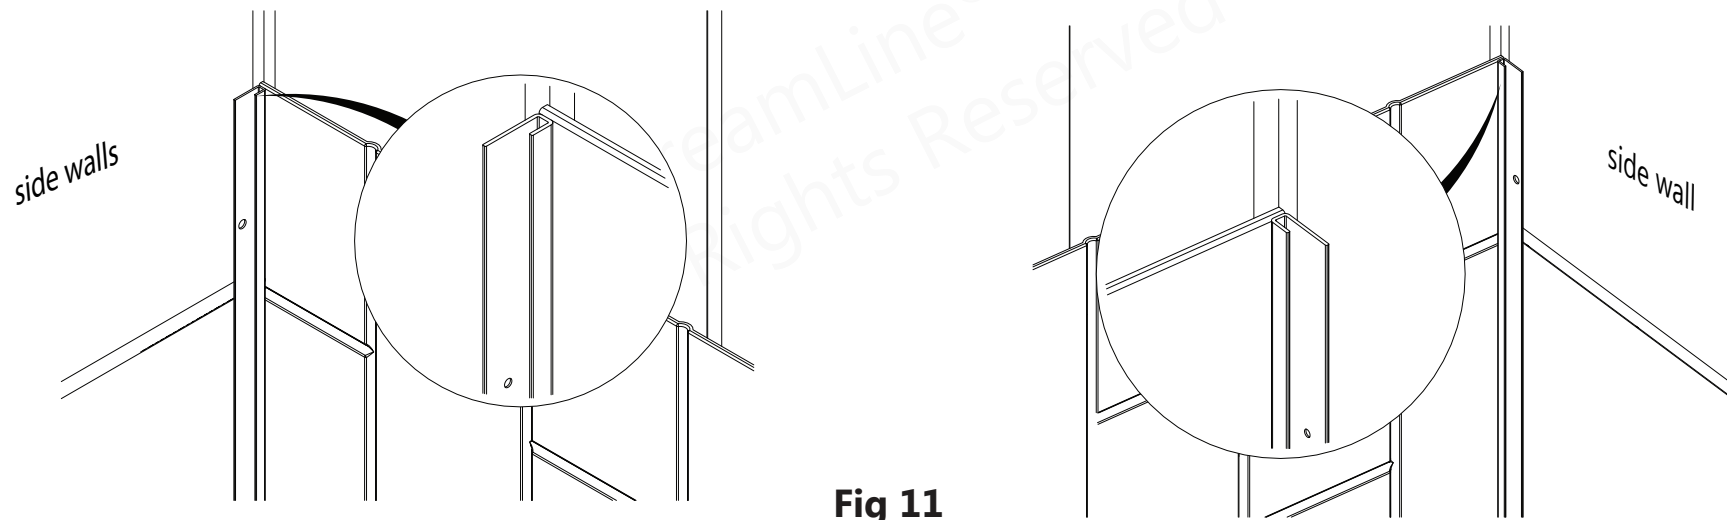

Fig 11
11. Dry fit the **J-Strips** into both back corners, with the wider flat side against the side walls, so the **Q-Wall Side Panels** can slide into them easily. **Fig 11**